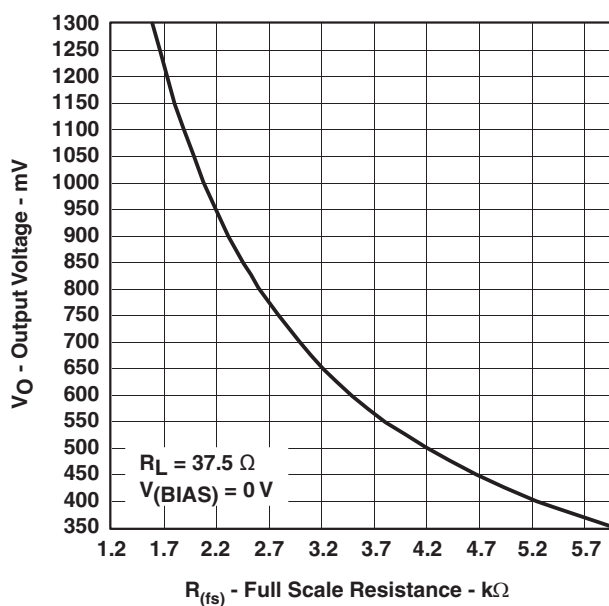

Figure 7-12. OUTPUT VOLTAGE vs FULL-SCALE RESISTANCE
(2) The HS_IN, VS_IN, and FID input setup/hold times are valid for 3.3-V I/O operation only. These sync inputs are not recommended for use with 1.8-V I/O logic levels.
(3) Defined as the delay on Y pixel data, starting from the rising edge of CLKIN, until the clock period.
(4) CSC contribution: 8 pixels, CSM contribution: 1 pixel, 2x interpolation filter contribution: 18 pixels
(5) PSRR is defined as $20 \cdot \log(\text{ripple voltage at DAC output} / \text{ripple voltage at AVDD input})$. Limits from characterization only.
(6) Crosstalk spec applies to each possible pair of the 3 DAC outputs. Limit from characterization only.
(7) The imbalance between DACs applies to all possible pairs of the three DACs.
(8) Nominal values at $R_{FS} = R_{FS(nom)}$; see Figure 7-12. Limit from characterization only. Excludes bias offset.